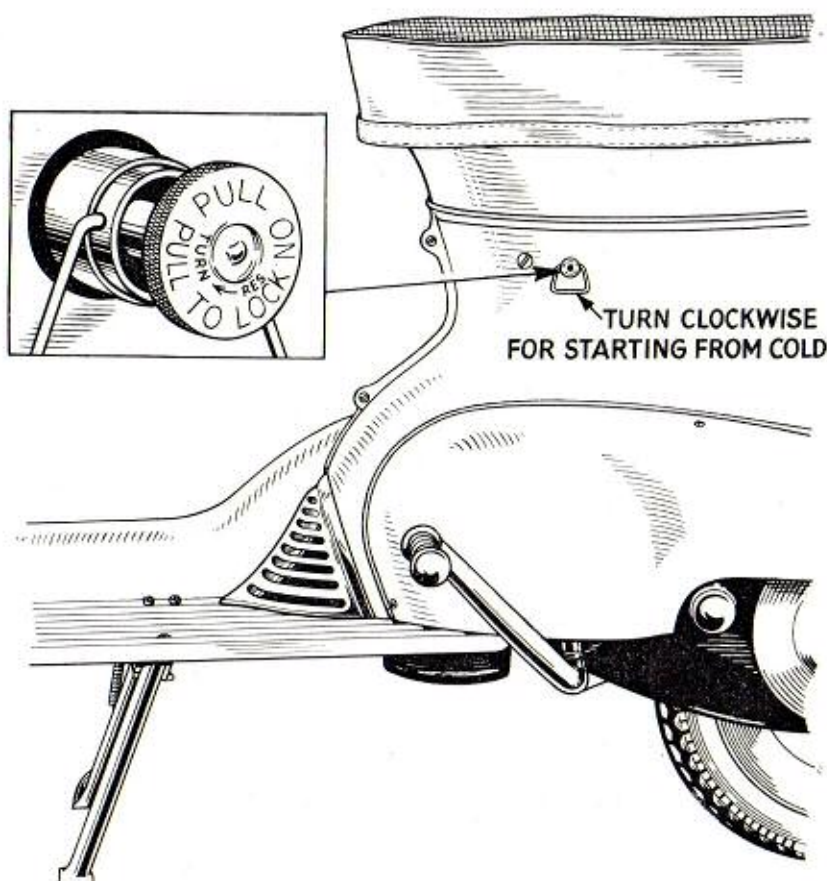

Fig. 4. Fuel Tap.
The control knob protrudes from the left panel (see Fig. 4). Pull the knob out for the "ON" position and turn in direction of arrow for reserve. **Always turn off the fuel tap when parking the scooter.**
*Always turn off the fuel tap when parking your scooter, or you may find difficulty when re-starting. See Fig. 4 page 11.*